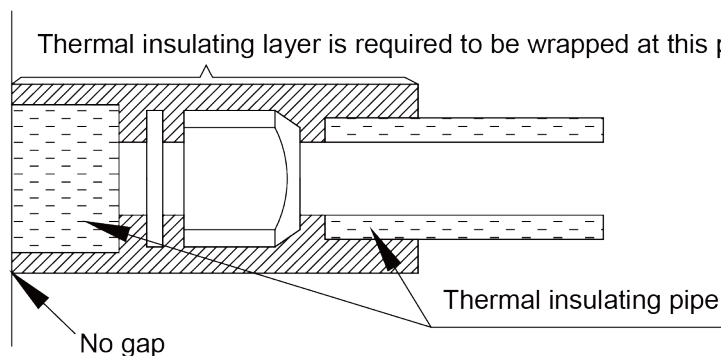

Fig. 18
- 2) Joints of indoor and outdoor unit should be wrapped with insulating material and leave no gap between pipe and wall. See Fig. 18.